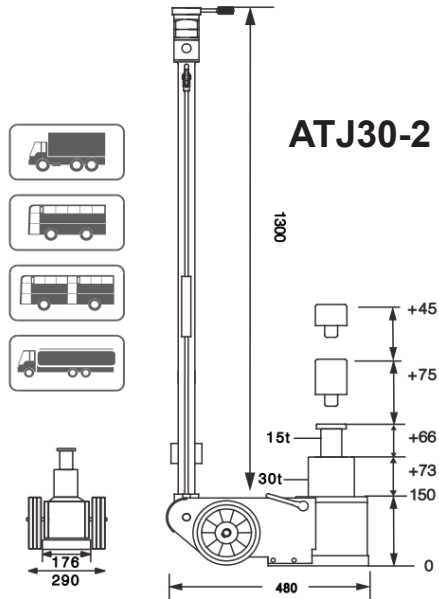

Fig. 08
1. Technical Data (See figures 08, 09 & 10)